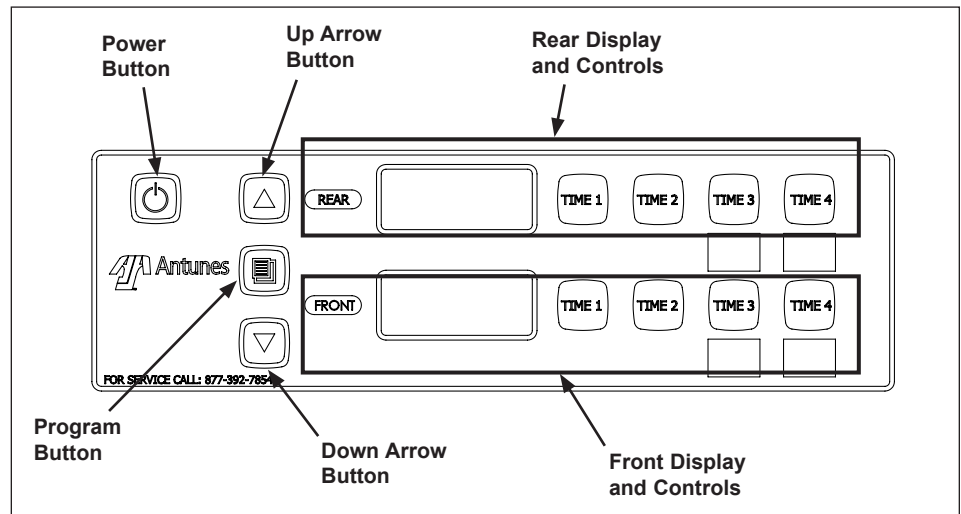

Figure 4. Operating Controls
5. Crack the eggs into the Egg Rings from Front to Back, right to Left as shown in Figure 4.
13. Raise the Egg Rack completely off the eggs and remove the eggs starting with the **FIRST** egg added (Figure 4). Continue removing the eggs in the order they were added until all eggs have been removed.